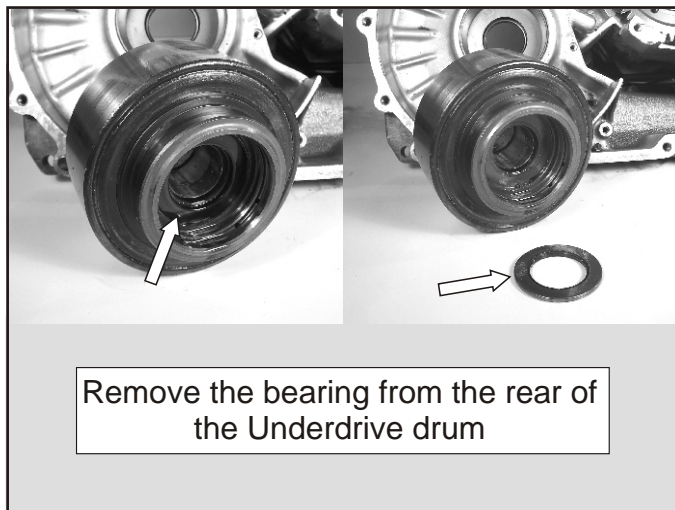

Figure 66
15. Place the Underdrive drum on the bench and remove the bearing from the rear of the drum as shown in Figure 66.